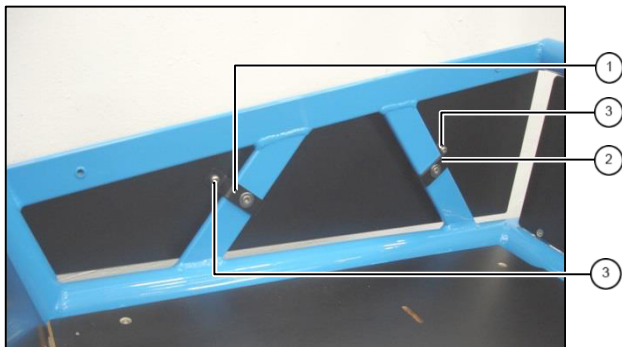
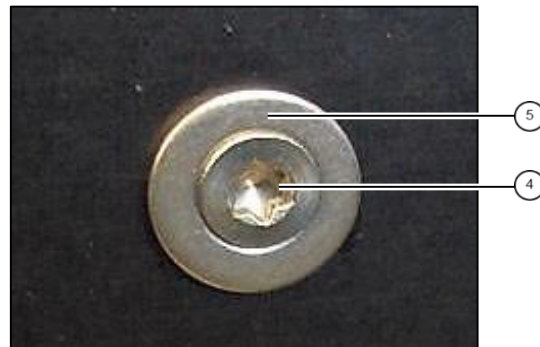

fig. 1: mounted right sidewall
fig. 2: countersunk bolt and washer
1. Place brackets ① and ② according to fig. 1 at frame and install bolts ④ and washers ⑤ loosely (see fig. 2). Front front brakckets ① point to the front, rear brackets ② to the back.
2. Place right sidewall with rubber pads facing left. Carefully turn bolts ③ rectangular into the sidewalls. Do not fully tighten the bolts.
3. Align sidewall and tighten bolts ③ and ④. **Tightening torque 2 up to 3 Nm.**